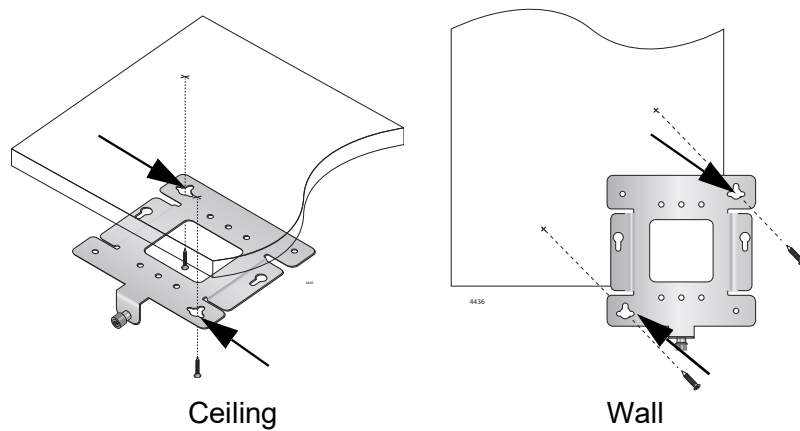

Figure 8. Mark and Pre-Drill Holes for Key-Hole Slots
2. Using the mounting bracket as a template, mark the two key-hole slots with a pencil in the location and orientation where you want to install the access point. Refer to the arrows in Figure 8.